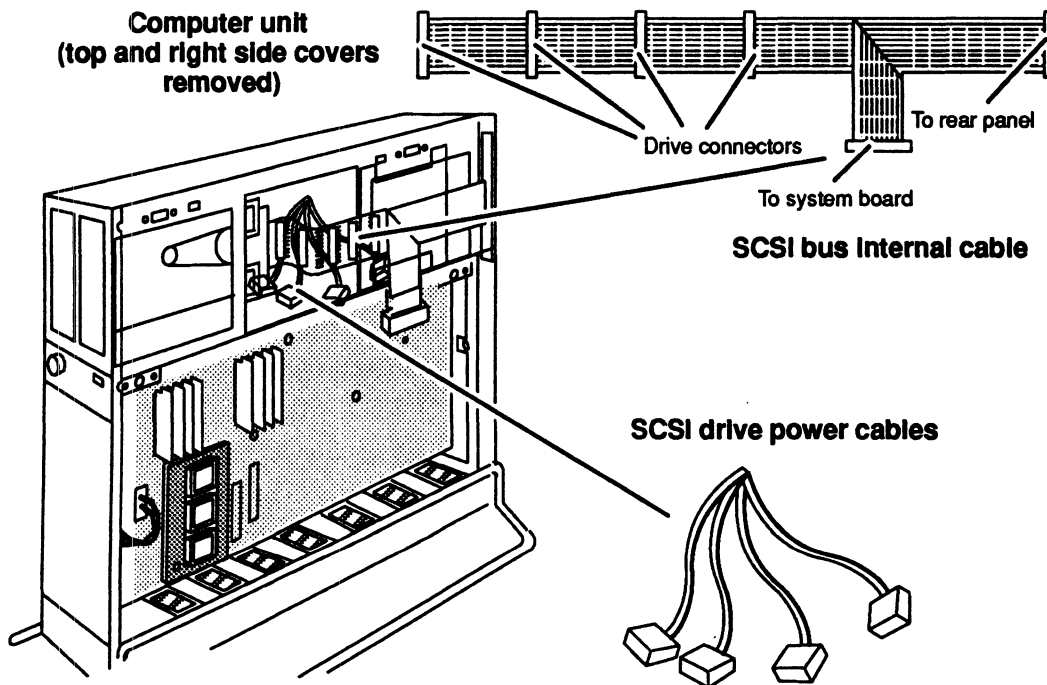

Figure 6-2 SCSI Bus Ribbon Cable and Drive Power Connectors
1. Unplug the power and SCSI bus cables from the drive. If the drive assembly contains two half-height drives, unplug the cables from each drive. Figure 6-2 shows the internal drive ribbon cable and power connectors.